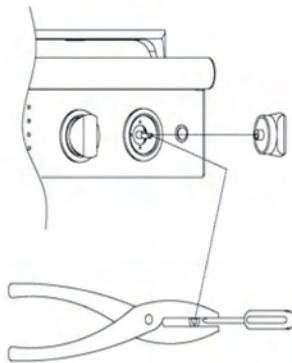

Fig 9
4. While holding the valve shaft with the pliers, insert a thin flat-Head screwdriver into the shaft and while viewing the burner adjust to a minimum stable flame. (Fig 9)